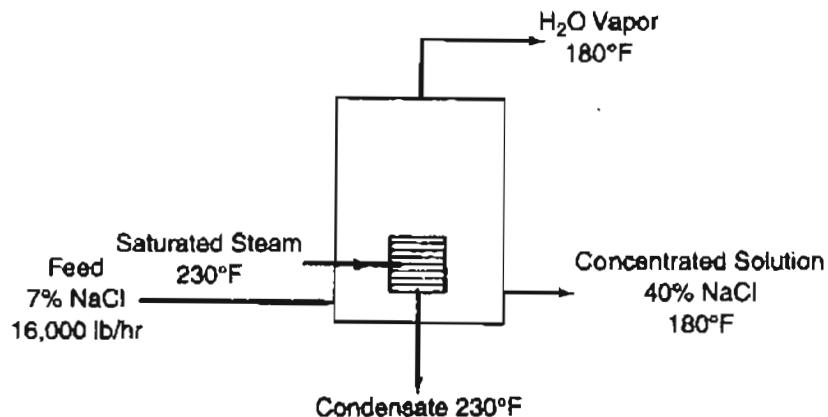

Figure P31.6
- 31.6 A feed stream of 16,000 lb/hr of 7% by weight NaCl solution is concentrated to a 40% by weight solution in an evaporator. The feed enters the evaporator, where it is heated to 180°F. The water vapor from the solution and the concentrated solution leave at 180°F. Steam at the rate of 15,000 lb/hr enters at 230°F and leaves as condensate at 230°F. See Figure P31.6.